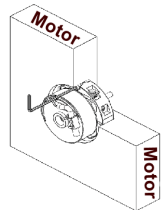

Figure 3-8
- 2) Unscrew the screw counterclockwise to loosen the expander, as shown in Figure 3-8.